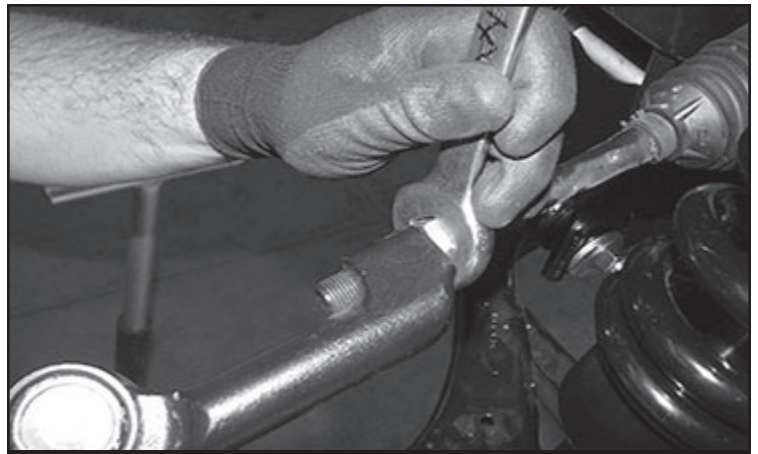

FIGURE 3 - STEP 6
6. Remove factory Tie Rod end and discard. **SEE FIGURE 3**